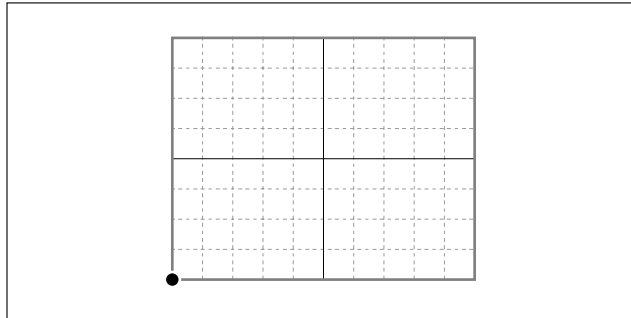

Fig. 4-3
- ③ Set the TIME/DIV switch of the oscilloscope to the X-Y mode.
- ④ Set the deviation sensitivity (VOLTS/DIV) of CH1 and CH2 of the oscilloscope to 0.2 V/DIV.
- ⑤ Set the input coupling switches of CH1 and CH2 of the oscilloscope to GND and adjust the oscilloscope to locate the signal at the bottom left of the screen. (Fig. 4-3)